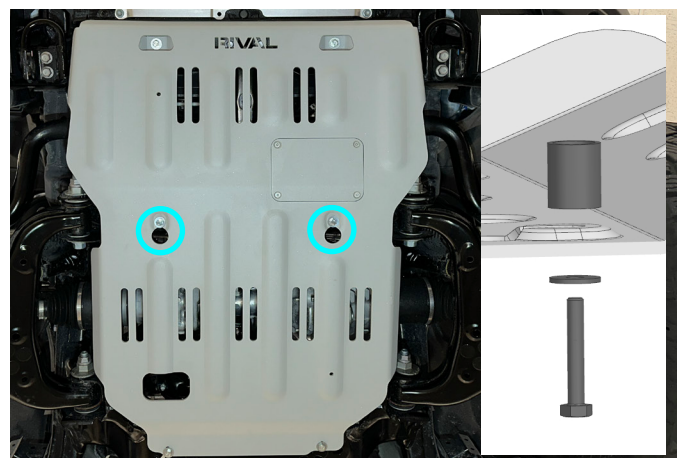

Fig. 4
4. Fix middle part of engine skid plate (item 1) using remaining bolts M8x60, washers M8 and spacers (items A, C, D) (Fig. 4).